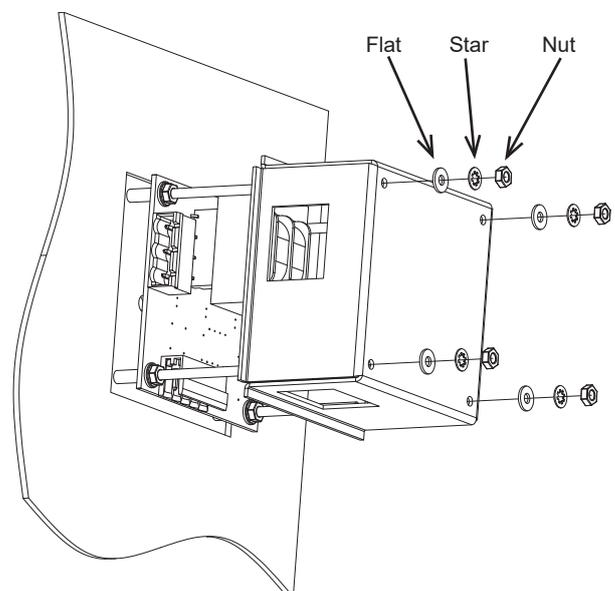

Figure 3: Installation of SIP-xxx
- 3.5 Taking into account the correct orientation of the rear enclosure, feed the rear enclosure over the threaded rods extending from the face panel, figure 3.